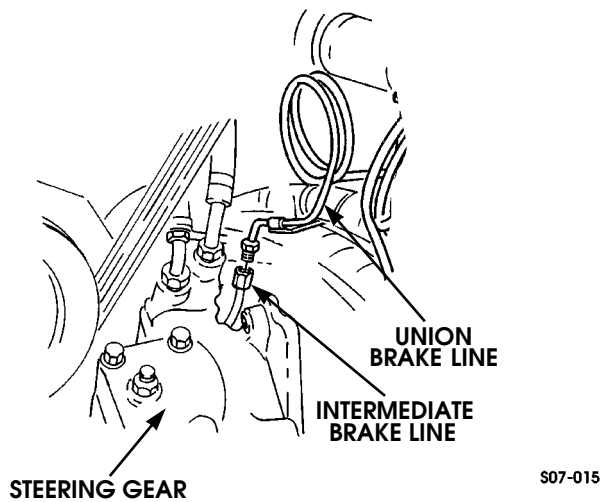

Figure 7-15: Intermediate Brake Line
1. Connect intermediate brake line to union brake line (Figure 7-15).